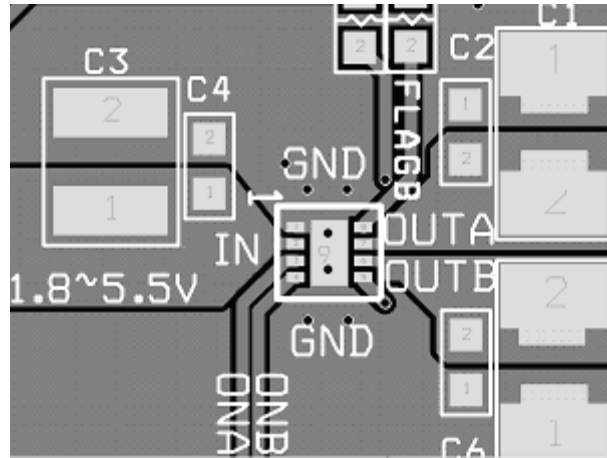

Figure 42. Proper Layout of Output and Ground Copper Area
3. The IN, OUTs, and GND pins dissipate most of the heat generated during a high load current condition. Figure 42 illustrates a proper layout for devices in MLP 3x3mm packages. IN, OUTs, and GND pins are connected to adequate copper so heat may be transferred as efficiently as possible out of the device. The low-power FLAGB and ON pin traces may be laid out diagonally from the device to maximize the area available to the ground pad. Placing the input and output capacitors as close to the device also contributes to heat dissipation, particularly during high load currents.